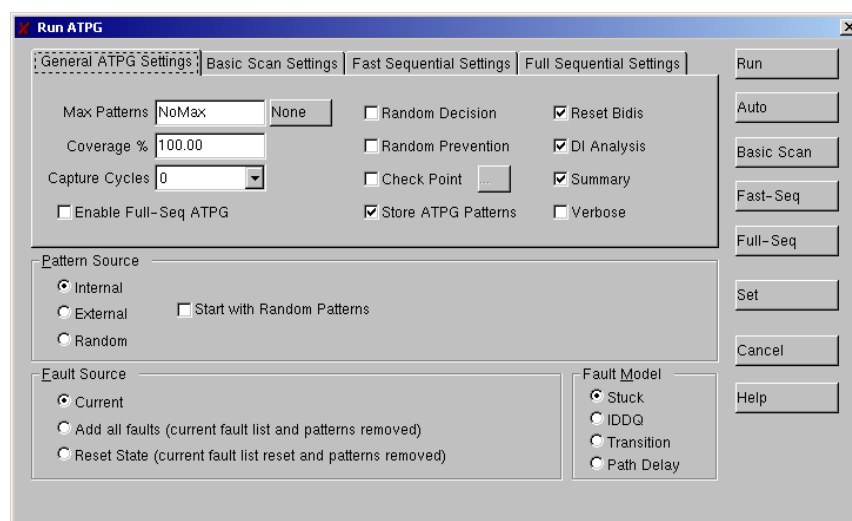

Figure 4: Run ATPG window
- Test vector generation: Use the **ATPG** button which will open the window shown in Figure 4. From the **General ATPG Setting** tab, you can perform the majority of test vector generations. Choose automatic mode by clicking on the **Auto** button. In this case, the generation tool adapts the different constraints in order to obtain a test vector sequence allowing to reach a maximum fault coverage rate. On the main window, you can read the coverage rate and the number of test vectors needed to test your circuit.